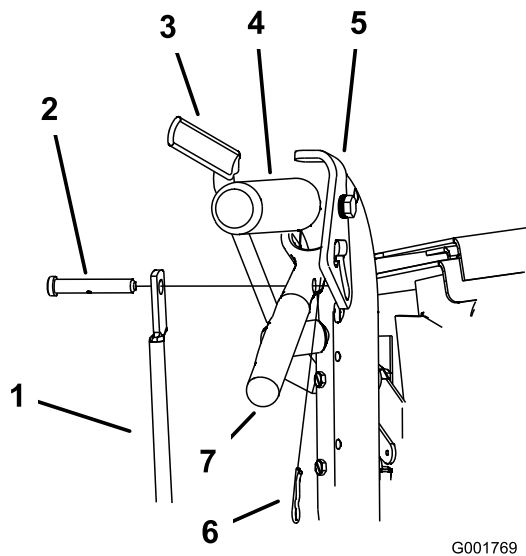

Figure 17
1. Remove the hairpin cotter pins and clevis pins from the drive levers and neutral locks (Figure 17).